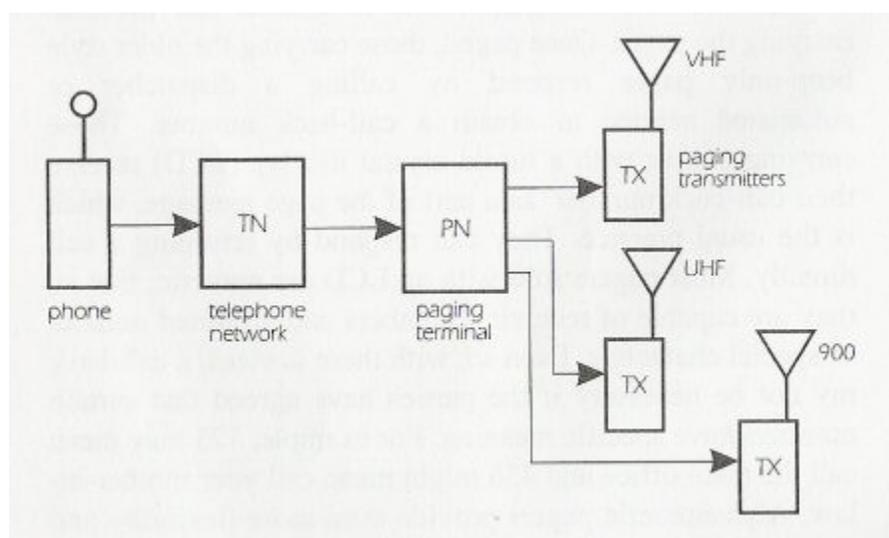

Figure 1-1: Commercial Paging System
How does the paging system work as a whole? Let's investigate by looking at a typical paging system for Any town, USA as shown in Figure 1-1. A page is initiated at a touch-tone phone. To page your spouse, for example, you'd dial a phone number assigned to the pager, wait for the automated voice prompt from the paging terminal - "please enter a number followed by the # sign," enter the phone number where you'd like to be reached, and hang up. The paging terminal, in turn, "makes up" the paging message for your spouse, including your message and the address of the pager (ID), adds it to a stack of pages to be sent, and transfers these pages within a few minutes to a bank of transmitters. Once transmitted, at the radio frequency assigned to your paging service, your spouse's pager beeps after recognizing its unique ID - and stores the message sent.